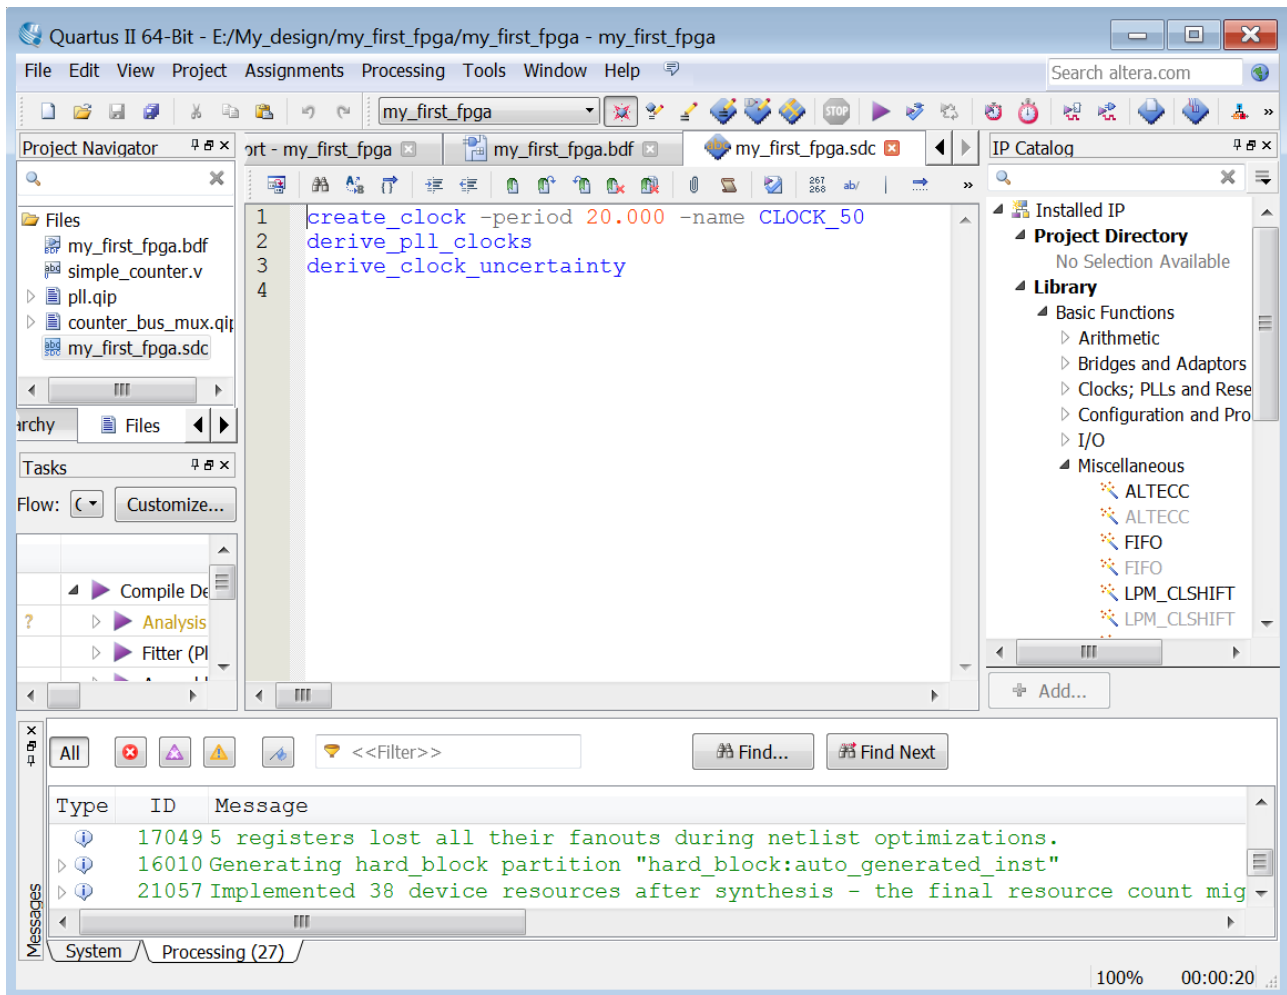

Figure 3-31 Default SDC
4. Save this file as my_first_fpga.sdc (see Figure 3-31)